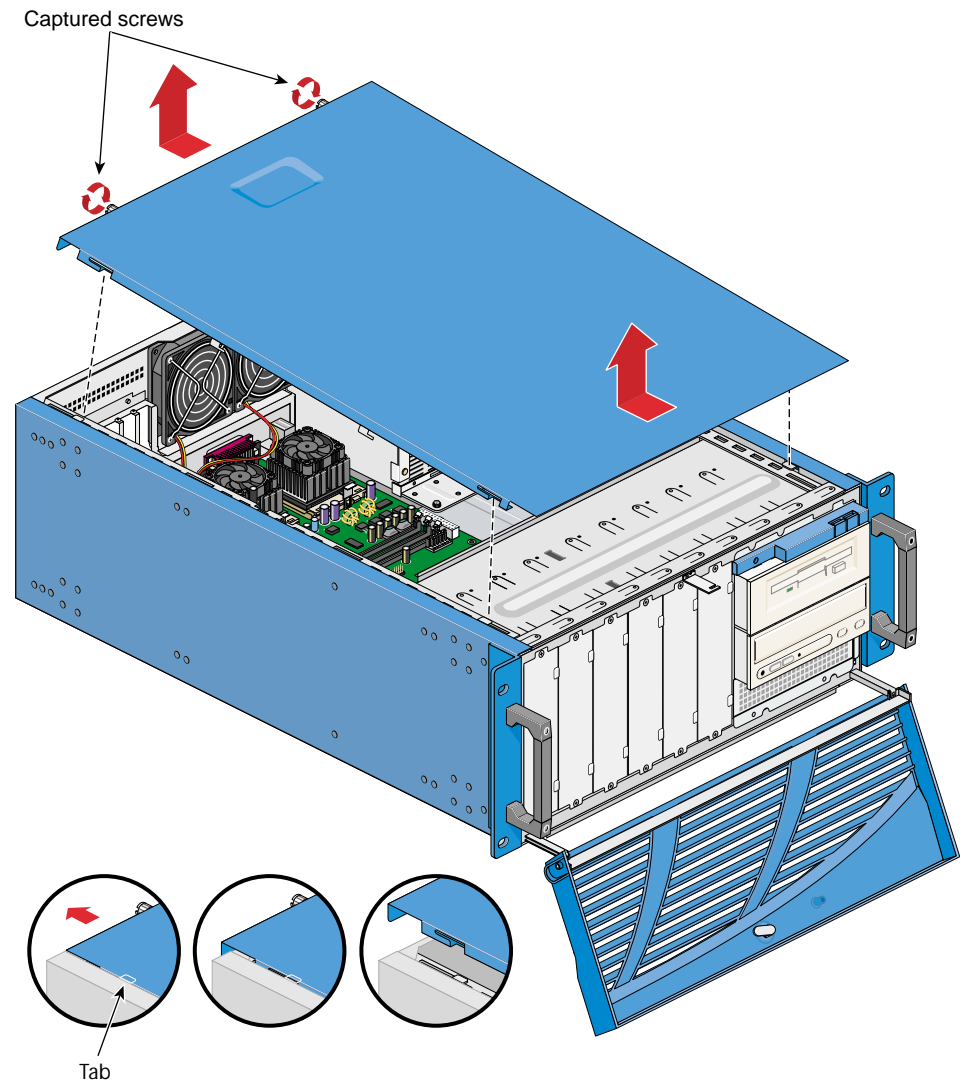

Figure 4-8 Removing a Node Cover
1. Loosen the two captive screws at the back of the node; see Figure 4-8.
2. Pull the node cover a centimeter or two (about half an inch) toward the back of the node; see Figure 4-8.
3. Lifting up on the back of the node cover, pull it up and away from the node; see Figure 4-8.